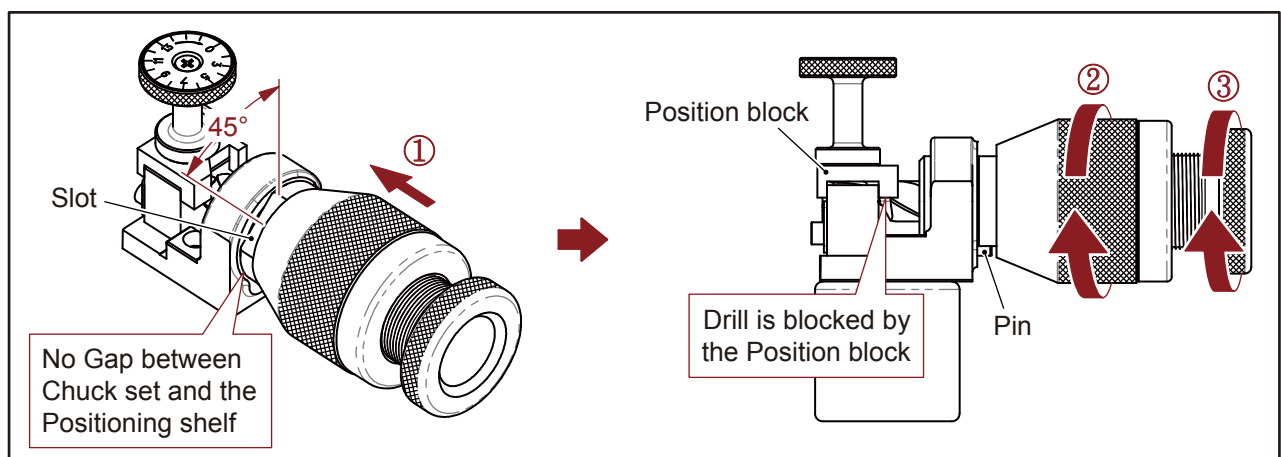

Fig. 7-2
3. Drill Positioning (Fig. 7-2)
- ① Insert the Chuck set into the Positioning Shelf by 45° of the slot of chuck set, then connect it closely without any interval.
- ② Turn the chuck set by clockwise until it stops by the pin of the Positioning Shelf.
- ③ Turn the clamping screw of Chuck set by clockwise to tighten.
- ④ Rotate the Chuck set counterclockwise and take it out gently.
- ① Check the cutting edge of the drill to see whether scraps / iron ash existed - clean the drill.
- ② Check the scale of the Positioning Shelf. (See chapter “VII. The use of the Positioning Shelf”)
- ③ Check the diameter of a drill and adjust the scale according to drill diameter. (See chapter “VII. The use of the Positioning Shelf”)
- ④ Check the position block on the Positioning shelf, if it is damaged, please contact with your agent for replacement.
- ⑤ When adjusting the length position, make sure the chuck set is tightly connect to the shelf without gap. (See page 11, Fig 7-2)